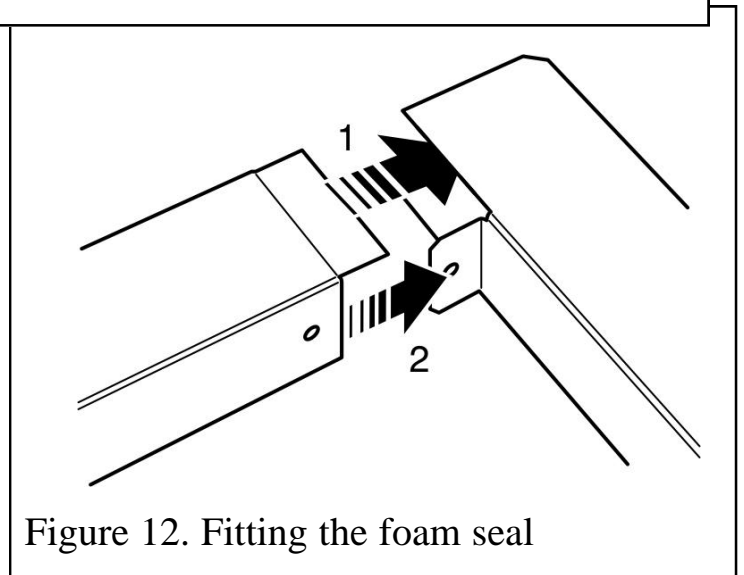

Figure 12. Fitting the foam seal
8. The sides have a stepped top face. These must be located on the inside the top piece (See point 1 of figure 12). The tabs on the top piece must locate on the inside of the side pieces (See point 2 of figure 12). Secure the two side pieces to the top piece using two self tapping screws supplied. Locate the screws from inside the 'U' channel.